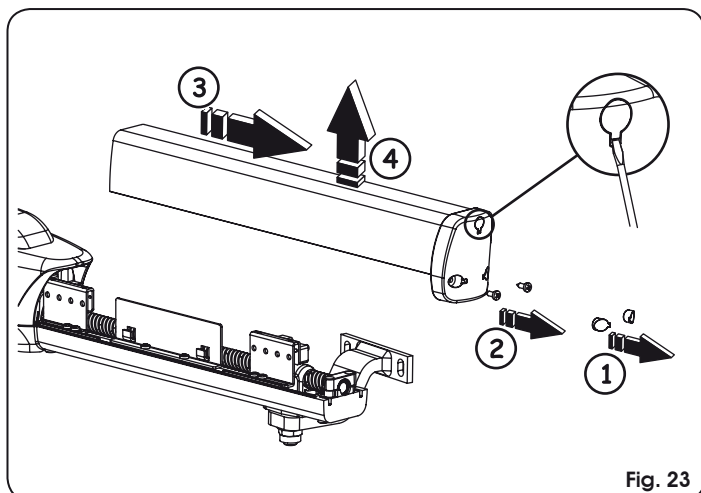

Fig. 23
1. Remove the two plugs which cover the lower securing screws, Fig. 23 ref. ①. To facilitate this operation, a slot is provided for inserting a screwdriver.
2. Unscrew both lower screws of the front cap and remove the cover, Fig. 23.